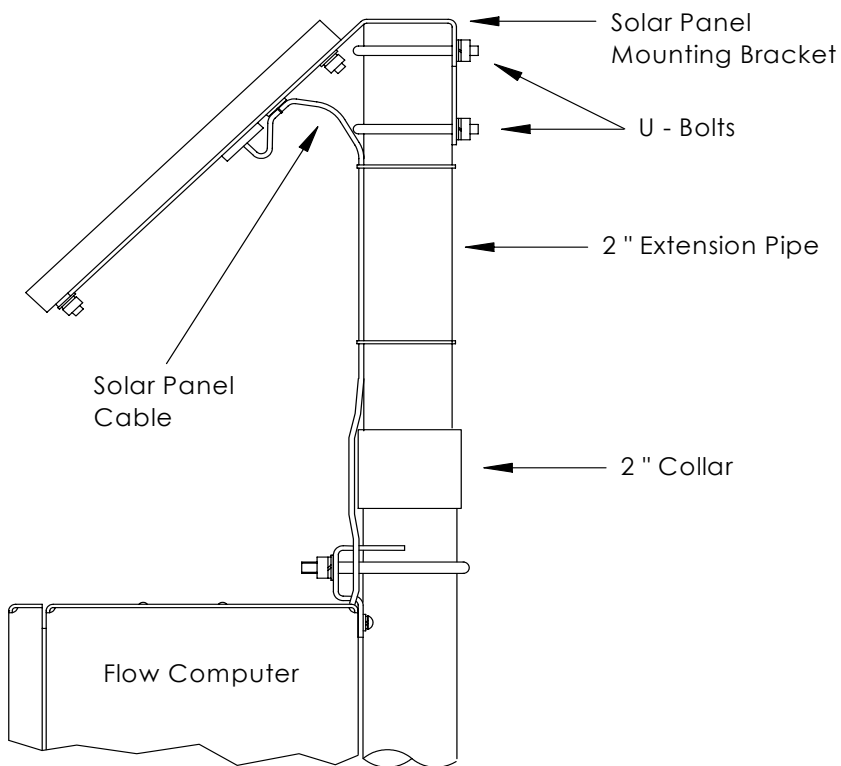

Figure 4 (Solar Panel Mounting)
1. Attach 2-inch pipe collar to top end of μ FLO mounting pipe. Securely tighten. (See Figure 4)